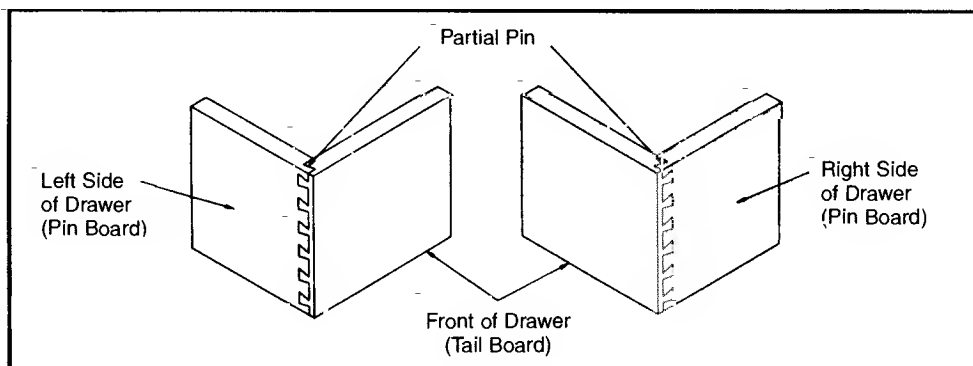

Fig. 13
10. If for appearance reasons the partial pins are desired to be in the same location of both sides of the drawer as shown in Fig. 13, then rout the right end of the drawer front and right side of the drawer on the right end of the templet. Adjust the right stop bars the same as those on the left (mirror image).